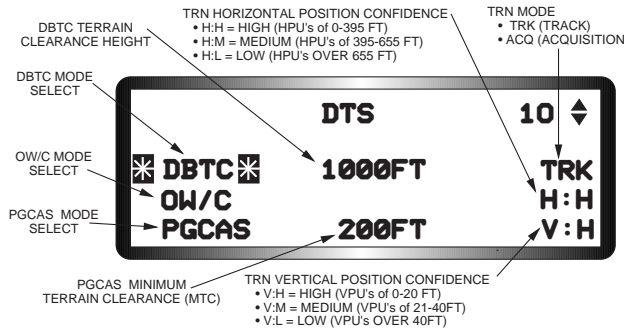

Figure 2-33 DTS Priority DED Page
DTS Priority DED Page. The DTS Priority page is accessed by depressing number “3” button on the ICP. The page, which is illustrated in Figure 2-33, provides the pilot with a method of selecting the DBTC, OW/C, and PGCAS DTS functions as well as a means of monitoring current TRN performance. The DTS Priority page also provides an accuracy assessment of the TRN performance by using horizontal and vertical position confidence depictions. The horizontal and vertical positions of confidence numbers shown in Figure 2-33 actually depict TRN’s Horizontal and Vertical Positions of Uncertainty (HPU and VPU) values. Low HPU/VPU values equate to high TRN confidence in the accuracy of the current aircraft horizontal and vertical position estimates in the DTS database. Low HPU and VPU values are reflected on the DTS Priority page as high horizontal and vertical positions of confidence (H:H and V:H). A DTS “OFF” status is displayed on the DED Priority page whenever the DTS capabilities hosted in the DTS/DTC are unavailable. In addition, the horizontal and vertical position confidence depiction’s are removed from the display and the ability to select the PGCAS, OW/C, and DBTC DTS functions are inhibited. Typically, the DTS “OFF” Status is driven by malfunctions in the DTS/DTC, failure to ensure that the DTS/DTC is ”locked” in the DTU, or using a standard DTC instead of the DTS/DTC.
DTS PGCAS Displays and Advisories. PGCAS-related DTS displays and advisories can be found primarily on the HUD and DED. The PGCAS functions are controlled from the DTS Priority DED page, Figure 2-33. The PGCAS function is selected by “dobbering” down to place the asterisks about the PGCAS mnemonic and depressing the M-SEL button to highlight it. The MTC altitude is initialized at 200 feet AGL on initial MMC power-up. The MTC may be changed by “dobbering” down to place the asterisks about the PGCAS MTC field, entering the desired AGL altitude from 50 to 9999 feet in 1 foot increments, and depressing ENTR. If DBTC is enabled, the PGCAS MTC will based on the selected DBTC Terrain Clearance Height (TCH) instead of the default or previously selected MTC. This automatic MTC selection cannot be overridden as long as the DBTC function is active. The MTC displayed on the DTS Priority page will be used in all master modes except A-G when dive angles are less than 20 degrees, bank angles are less than 40 degrees, and airspeeds faster than 325 knots CAS. In these situations, the MMC automatically resets the MTC to 50 feet to reduce false warnings. The MMC will automatically revert the PGCAS computations to the last left MTC (as previously selected by the pilot or the DBTC function) when the flight conditions above cease to exist and the current aircraft AGL altitude is above the last left MTC. MMC power cycles occurring on the ground while the INU is being aligned (not in NAV) will cause the MTC to reset from a previously selected MTC to 200 feet. Otherwise, MTC settings will be retained as last left through airborne or ground MMC power cycles. The baseline F-16 Ground Avoidance Advisory Function (GAAF) warnings are independent of the DTS PGCAS function or MTC settings.
Displays and Cues. The DBTC function is controlled from the DTS Priority DED page shown in Figure 2-33. The DBTC function is initialized to the disabled state and must be enabled after take-off when the landing gear is up and the TRN is in TRK mode. DBTC may be selected or de-selected by “dobbering” down to place the asterisks about the DBTC mnemonic and depressing the M-SEL button to either highlight (enable) or de-highlight (disable) the function. After enabling the DBTC function, the TCH altitude will initialize to 1000 feet AGL but may be changed by “dobbering” down to place the asterisks about the TCH altitude and depressing any key 1 through 9 on the UFC. Depressing any key 1 through 9 will rotary the TCH selections as follows: 1000 ft. - 500 ft. - 300 ft. - 200 ft. - 100 ft. and back to 1000 ft. Once the desired TCH is displayed, no further action is needed to input it into the DTS system.